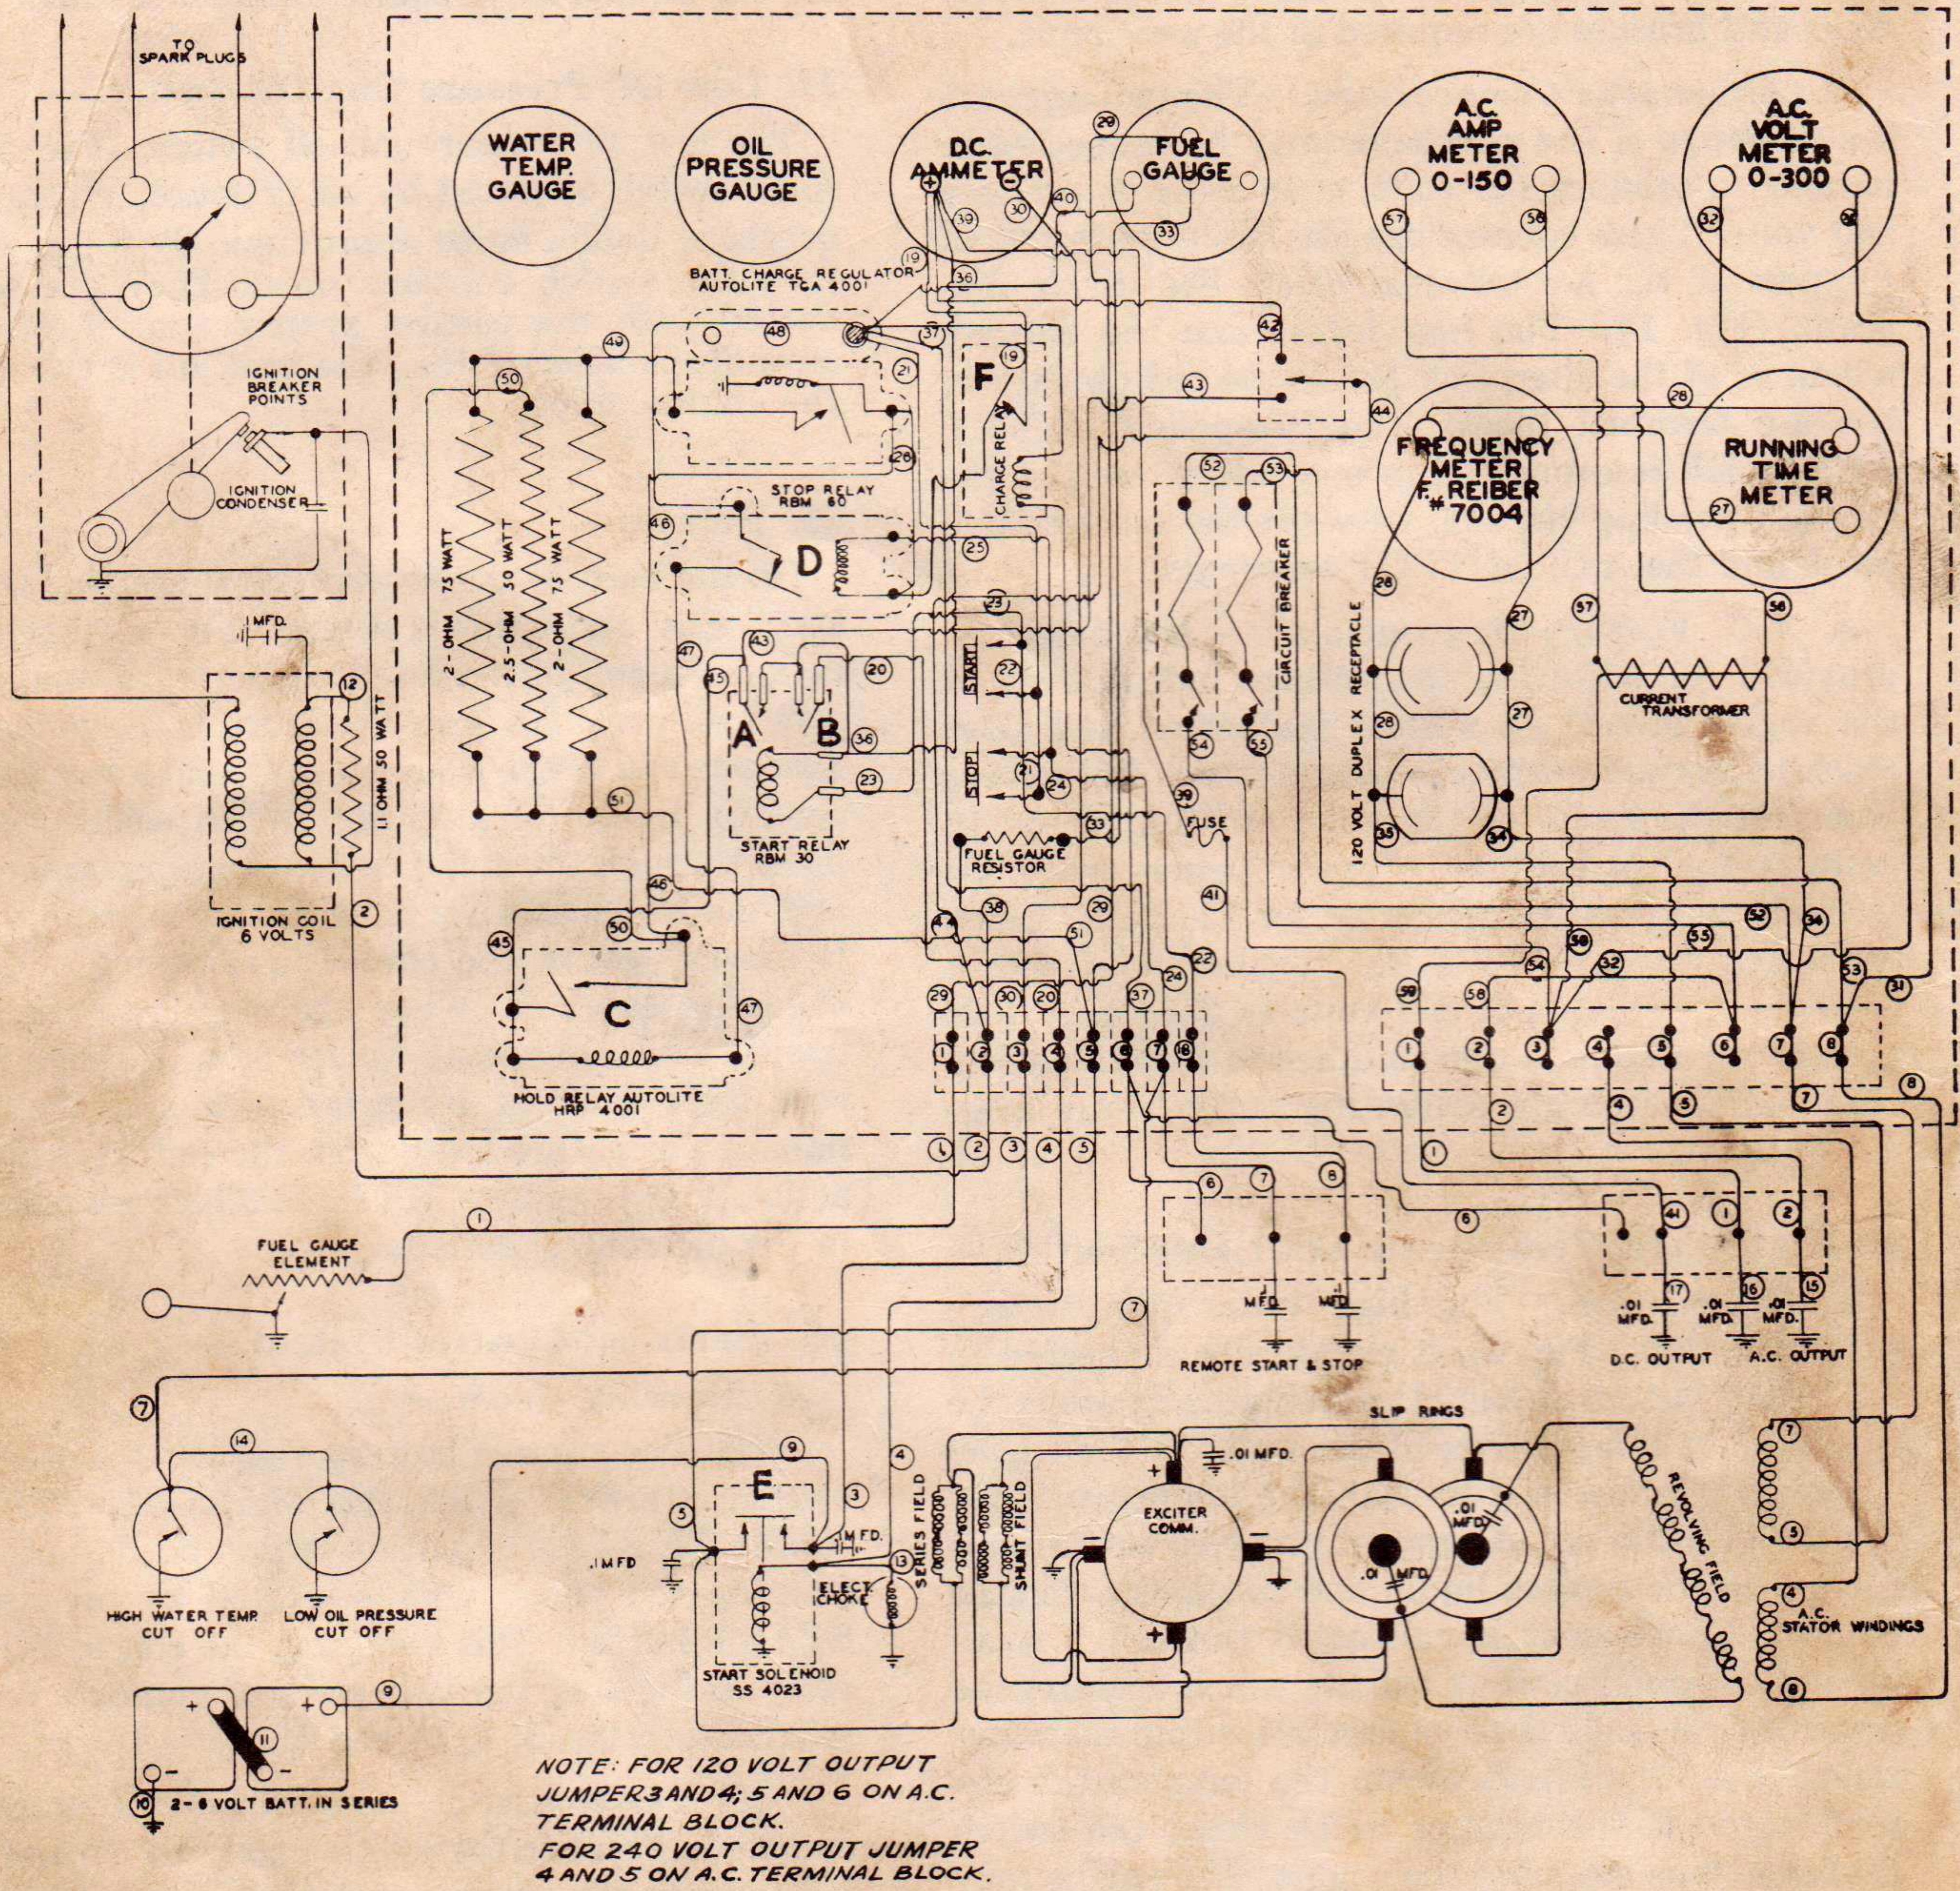

FIG. 14 PICTORIAL WIRING DIAGRAM
*c. Battery Charging Circuit.* — The closing of the battery charging relay contacts connects the storage battery across the exciter which then supplies charging current. See wiring diagram (Fig. 14). This current passes from the exciter to terminal 5, through the battery charging resistor and regulator group, through the battery charging relay contacts, through the BATTERY CHARGE RATE ammeter, to terminal 3, through the battery, through the frame of the power unit, to the exciter.
*d. Alternator Connections.*—The two separate a-c windings of the alternator may be connected in parallel to produce 120-volts, or in series to produce 240 volts. These connections are made by means of jumpers at the a-c terminal block. See wiring diagram, (Fig. 14). The four leads from the two a-c windings of the alternator are connected directly to the a-c terminal block. The two-pole CIRCUIT BREAKER is connected in one side of each of the two a-c winding circuits, between the a-c terminal block and the A.C. OUTPUT terminals.